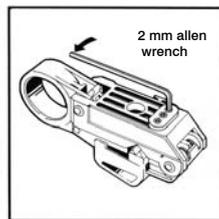

Figure 9
I. Adjust blade depth to match your cable size by turning allen screws at base of tool (Fig. 9).